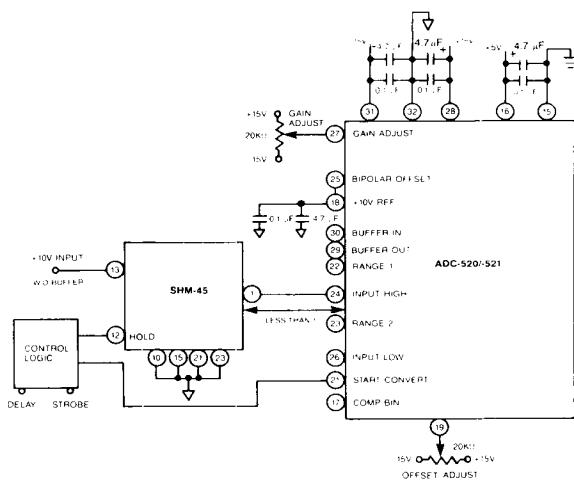

Figure 3. ADC/SHM Connection Diagram
① Specifications cited are at +25 °C. See Technical Note 1 for further information.
② With DATEL SHM-45, see Figure 3.
1. Connect the converter per Figure 3 and Tables 2a and 2b for the appropriate full-scale range (FSR). Apply a pulse of 50 nanoseconds minimum to the START CONVERT input (pin 21) at a rate of 500 KHz. This rate reduces flicker if LED's are used on the outputs for calibration purposes.